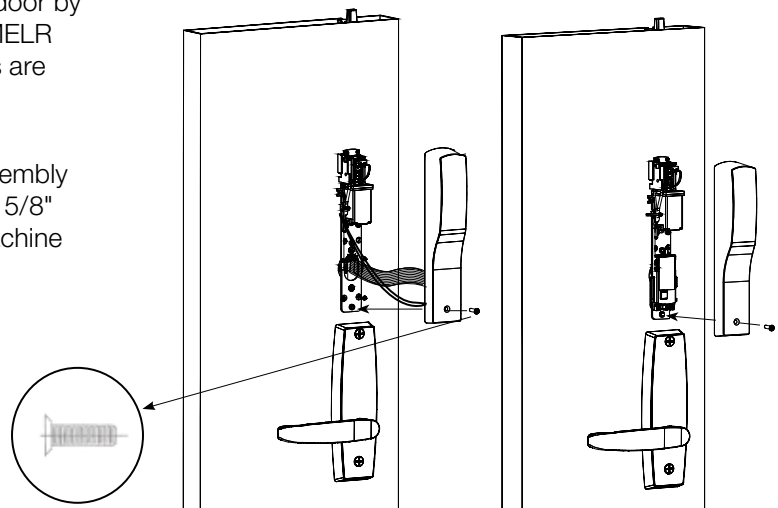

Figure 25
2. Mount inside escutcheon assembly to plate using one (1) #8-32 x 5/8" Phillips flat head undercut machine screw. (Figure 25)